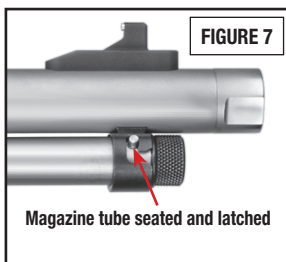

FIGURE 7
- The magazine tube is mounted under the barrel and is retained by a friction-fit latch. The tube is unlatched by turning it counterclockwise (FIGURES 7 & 8). Withdraw the magazine tube to unload.